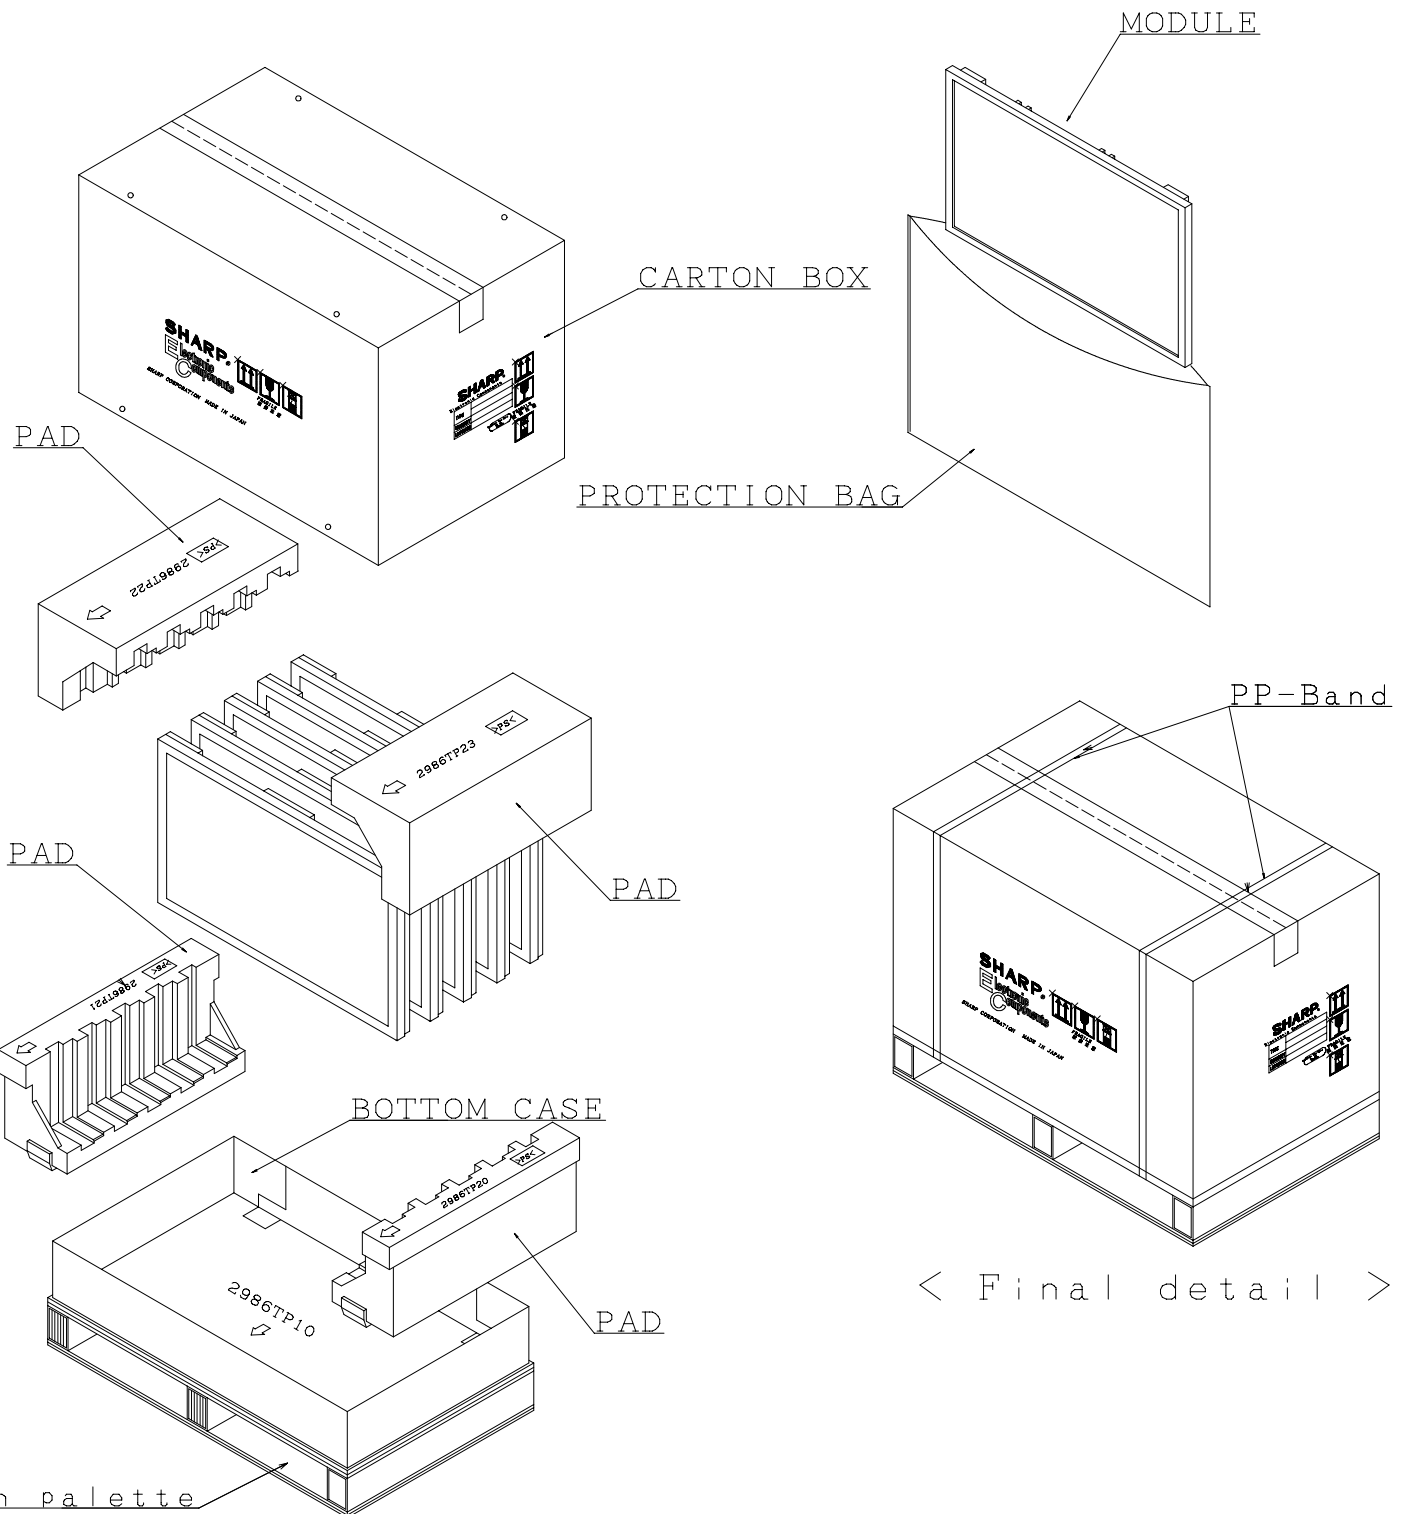

Fig 4. Module packing form
- Brightness control voltage is switched for "ON" and "OFF", as shown in Fig.4. Voltage difference generated by this switching,  $\Delta V_{INV}$ , may affect a sound output, etc. when the power supply is shared between the inverter and its surrounding circuit. So, separate the power supply of the inverter circuit with the one of its surrounding circuit.
- c) Carton size : 1186(W) × 572 (D) × 822 (H)
- e) Packing Form are shown in Fig.4